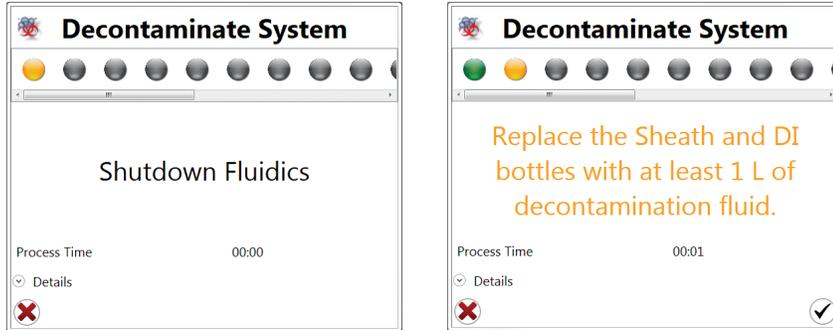

Fig. 130. Decontamination instructions to prepare the system.
8. Replace the DI water and sheath fluid containers with at least 1 L of decontamination solution (Figure 130).